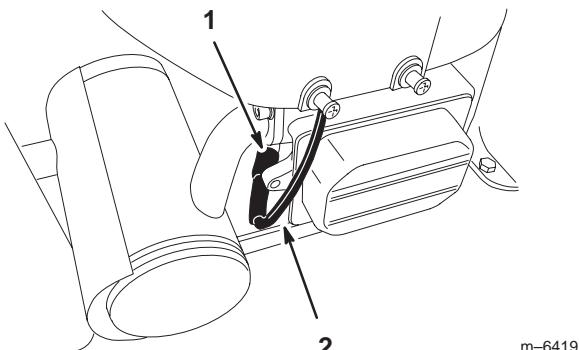

Figure 24
2. Pull the wire off of the spark plug (Fig. 24). Clean around the spark plug to prevent dirt from falling into the engine and potentially causing damage.
3. Push the wire onto the spark plug (Fig. 24).